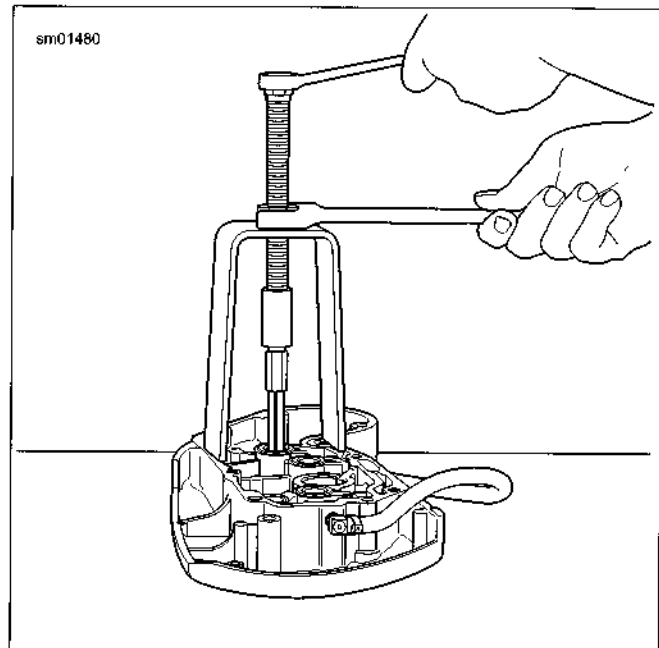

Figure 3-86. Removing Cam Bushing from Gearcase Cover
- See Figure 3-86. Use BUSHING AND BEARING PULLER (Part No. HD-95760-69A) to remove bushings from gearcase cover and crankcase.